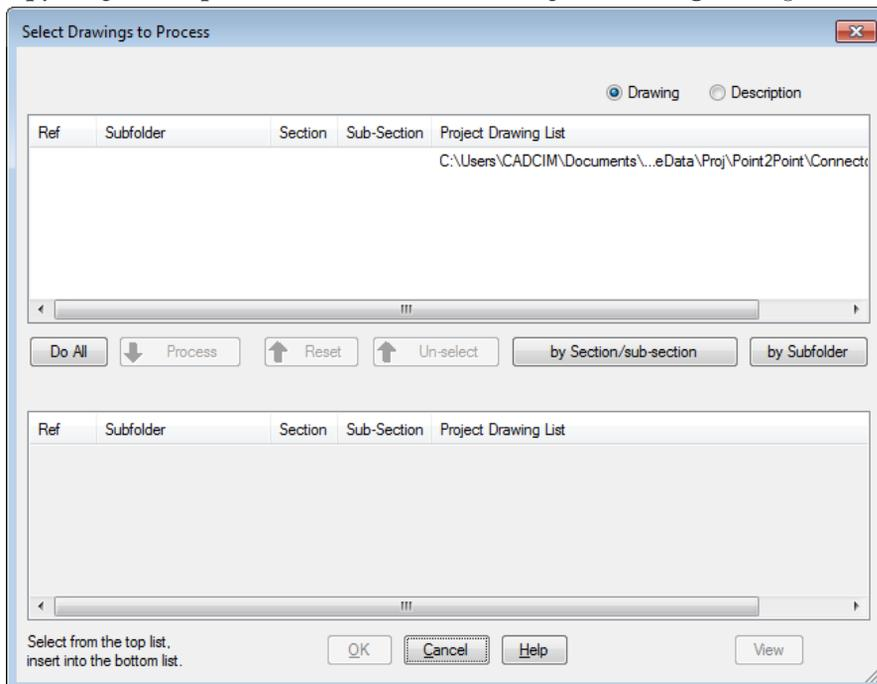

Figure 2-70 The Select Drawings to Process dialog box
5. Now, choose the **Save** button; the **Select Drawings to Process** dialog box is displayed, as shown in Figure 2-70. In this dialog box, choose the **Do All** button and then the **OK** button; the **Copy Project: Step 4 -- Enter Base Path for Project Drawings** dialog box is displayed.